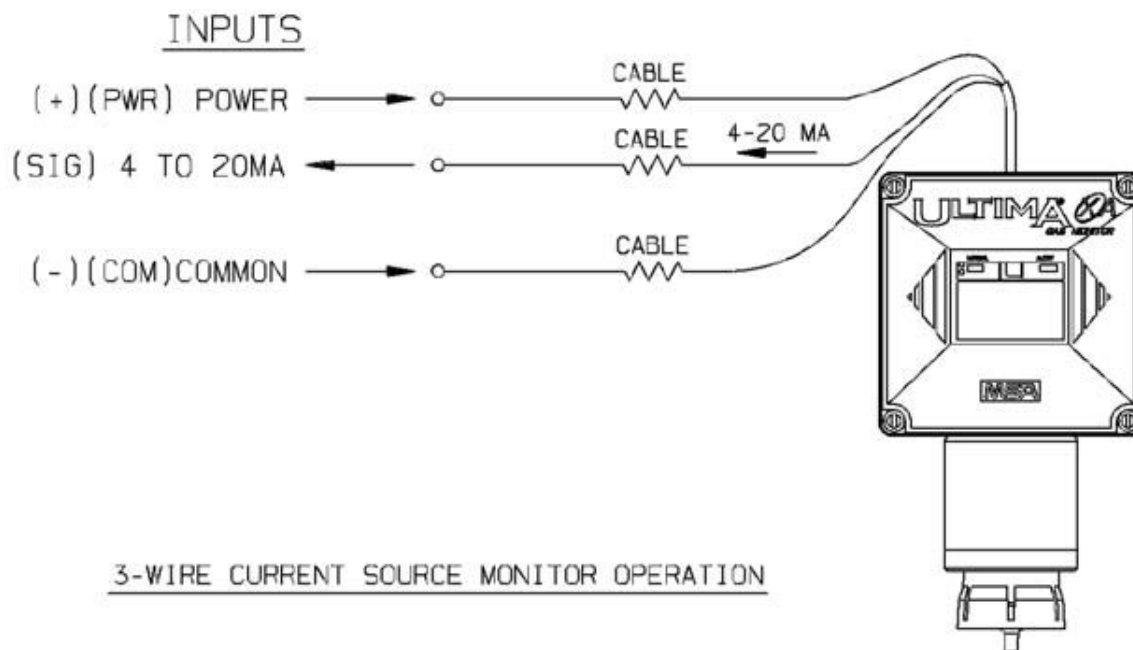
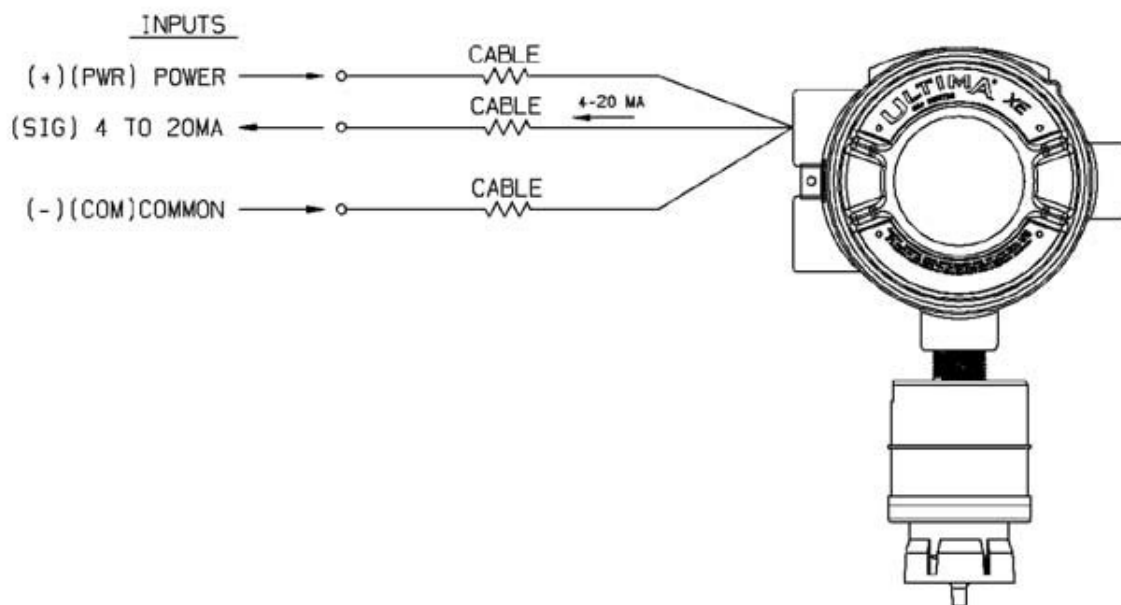

Fig. 14 General-Purpose Three-Wire Operation
Fig. 15 Explosion-Proof Three-Wire Operation
- Three-wire Ultima X Series Monitors operate in the current source mode (see Fig. 14 for general-purpose) (Fig. 15 for explosion-proof).